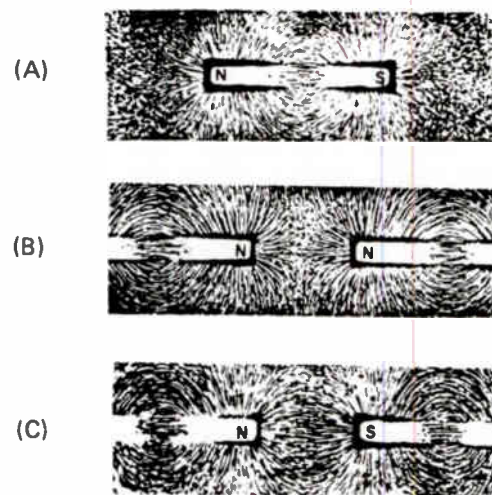

Figure 12. If iron filings are placed on a sheet of cardboard over permanent magnets, they will trace out lines of force.
You can also see the lines of force around a magnet by placing a thin sheet of cardboard over the magnet, then sprinkling iron filings evenly over the cardboard. Tap the cardboard gently and the iron filings will arrange themselves in a definite pattern, as shown in Fig. 12(A). As you see, the filings are lined up with the lines of force.
By bringing the north pole of two magnets together and performing the experiment again, you can see the repulsion between the two poles, as Fig. 12(B) shows. Figure 12(C) shows the pattern set up by the attraction between the north pole of one magnet and the south pole of another.